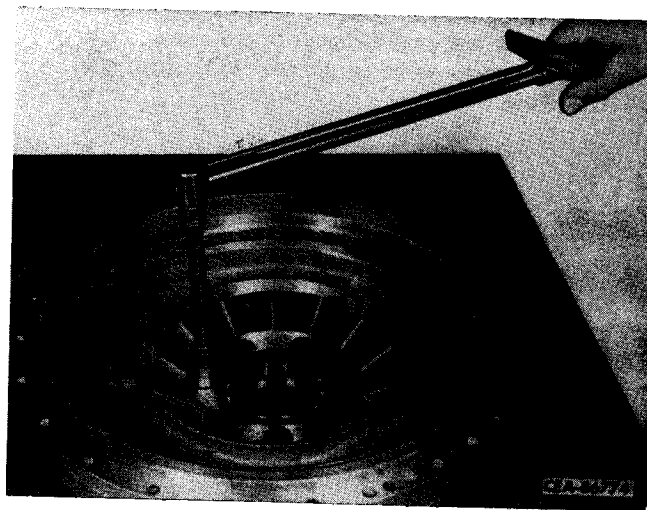

Figure 3-53
Align holes in accessory drive gear (2, Fig. 3-53) with those of impeller, and tap gear with a mallet until it bottoms in recess of impeller. Install retaining cap screws (1) and tighten to recommended torque (refer to "SPECIAL TORQUES").